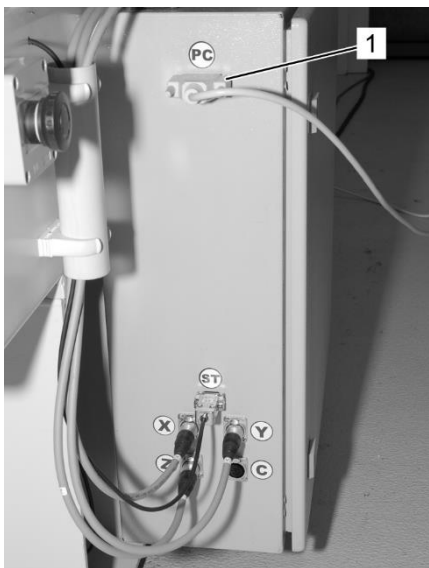

Fig. 27: Connection to Computer
The computer will be connected to the machine via a DSUB-25-pin parallel connection (Fig. 27/1). The other side will be connected to the computer via a parallel port connection.
1. Attach cable from computer to the controller (Fig. 27/1).